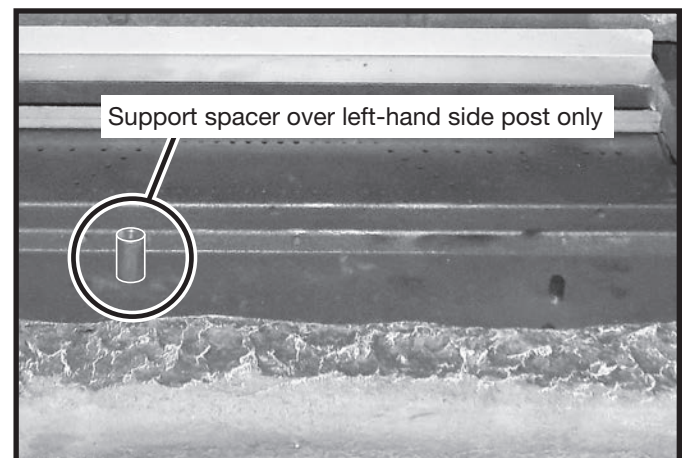

Figure 74: Support spacer over post.
8. Place included metal spacer/support over top of the left-hand side post located on the front burner (Figure 74). This spacer will support the front end of log number two. **Note: Spacer may already be present and fastened to the burner.**